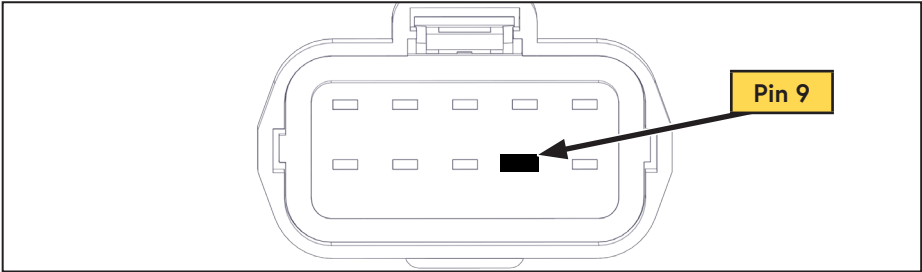

Figure 58 — View from front of connector
- ☐ Locate the yellow wire with blue stripe going to pin 9 in the transmission range sensor connector (Figure 58).
- ☐ Splice the blue wire from the throttle control to the yellow wire with blue stripe going to pin 9 in the transmission range sensor connector (Figure 58).